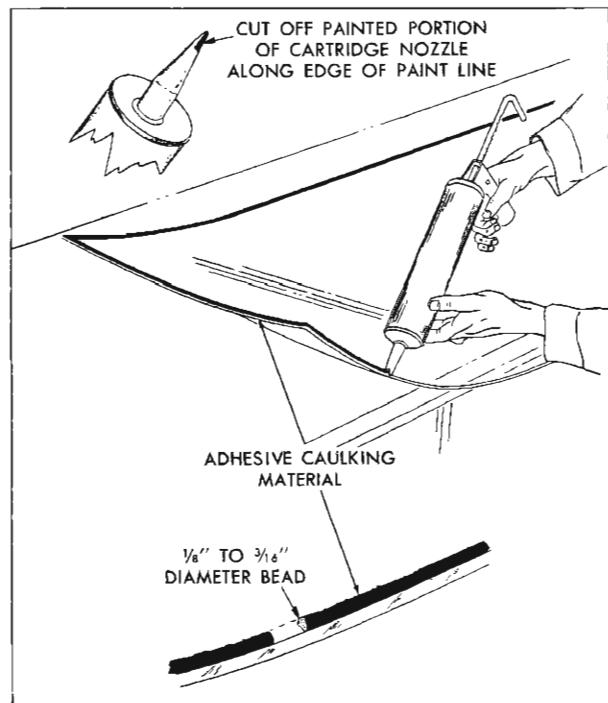

Fig. 11-19 Adhesive Application
4. Cut off painted tip of cartridge nozzle along edge of paint line (Fig. 11-19).
6. Carefully apply a smooth continuous bead of caulking material on inside surface of glass next to edge completely around glass (Fig. 11-19). Caulking material should be between $\frac{1}{8}$ to $\frac{3}{16}$ of an inch in diameter.